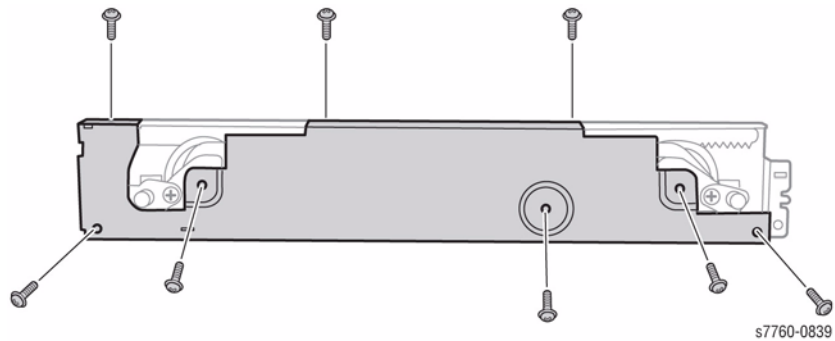

Figure 3 Cover Screw Location
1. Remove the 8 Cover screws from the Lift Jack Assembly (Figure 3).